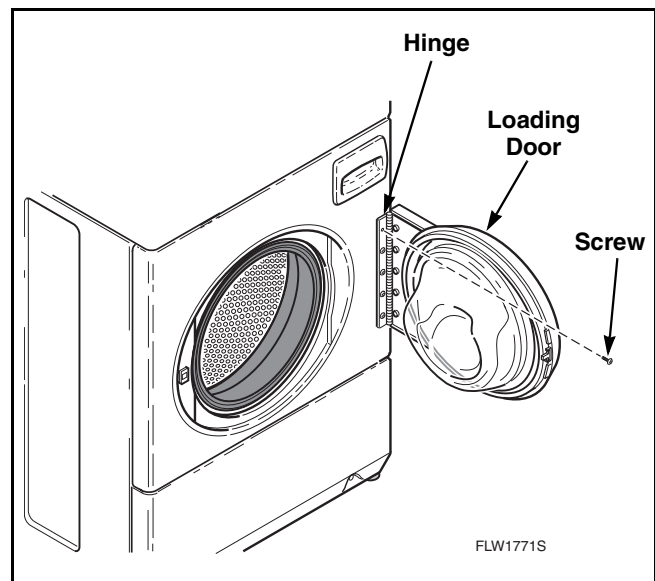

Figure 13
- b. The loading door can be adjusted up or down somewhat by loosening screws holding door hinge to front panel, then raise or lower door before retightening screws. Refer to *Figure 13*.